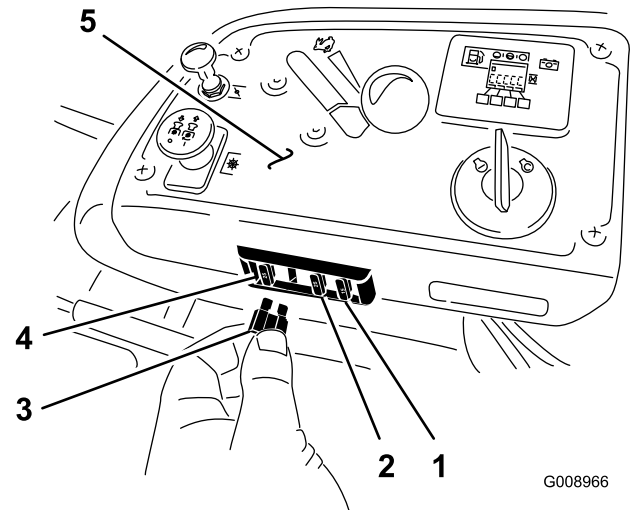

Figure 77
The fuses are located on the console to the right of the seat (Figure 77).
2. Install a new fuse (Figure 77).